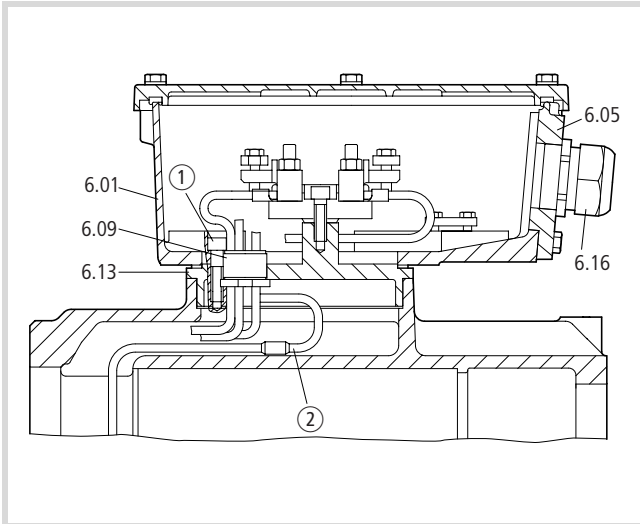

Figure 14: Removing the terminal box from the bushing plate
- ① Terminals
- ② Disconnection point
- ③ Fastening screw
- ▶ Once you have unscrewed the four screws ③, lift the terminal box from the housing.
- ▶ Undo the fastening screws ① (→ Fig. 14).
Proceed as follows to disconnect the stator winding of motors with moulded core bushings (→ Fig. 14):